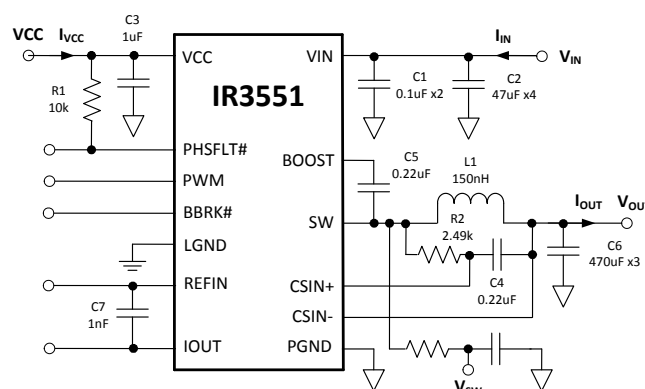

Figure 32: IR3551 Power Loss Measurement
Circuit of Figure 32, $V_{IN}=12V$, $V_{OUT}=1.2V$, $f_{SW} = 400kHz$, $L=150nH$ ($0.29m\Omega$), $V_{CC}=7V$, $T_{AMBIENT} = 25^{\circ}C$, no heat sink, no air flow, 8-layer PCB board of 3.7" (L) x 2.6" (W), no PWM controller loss, no inductor loss, unless specified otherwise.
Circuit of Figure 32, $V_{IN}=12V$, $V_{OUT}=1.2V$, $f_{SW} = 400kHz$, $L=150nH$ (0.29mΩ), $V_{CC}=7V$, $T_{AMBIENT} = 25^{\circ}C$, no heat sink, no air flow, 8-layer PCB board of 3.7" (L) x 2.6" (W), no PWM controller loss, no inductor loss, unless specified otherwise.
The single-phase IR3551 efficiency and power loss measurement circuit is shown in Figure 32.